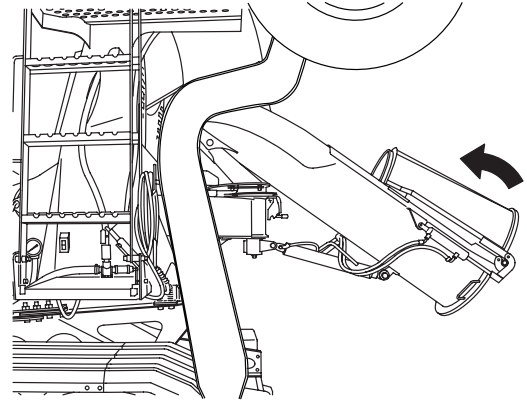

Figure 22
2. Slowly raise the chute into stored position (Figure 22).